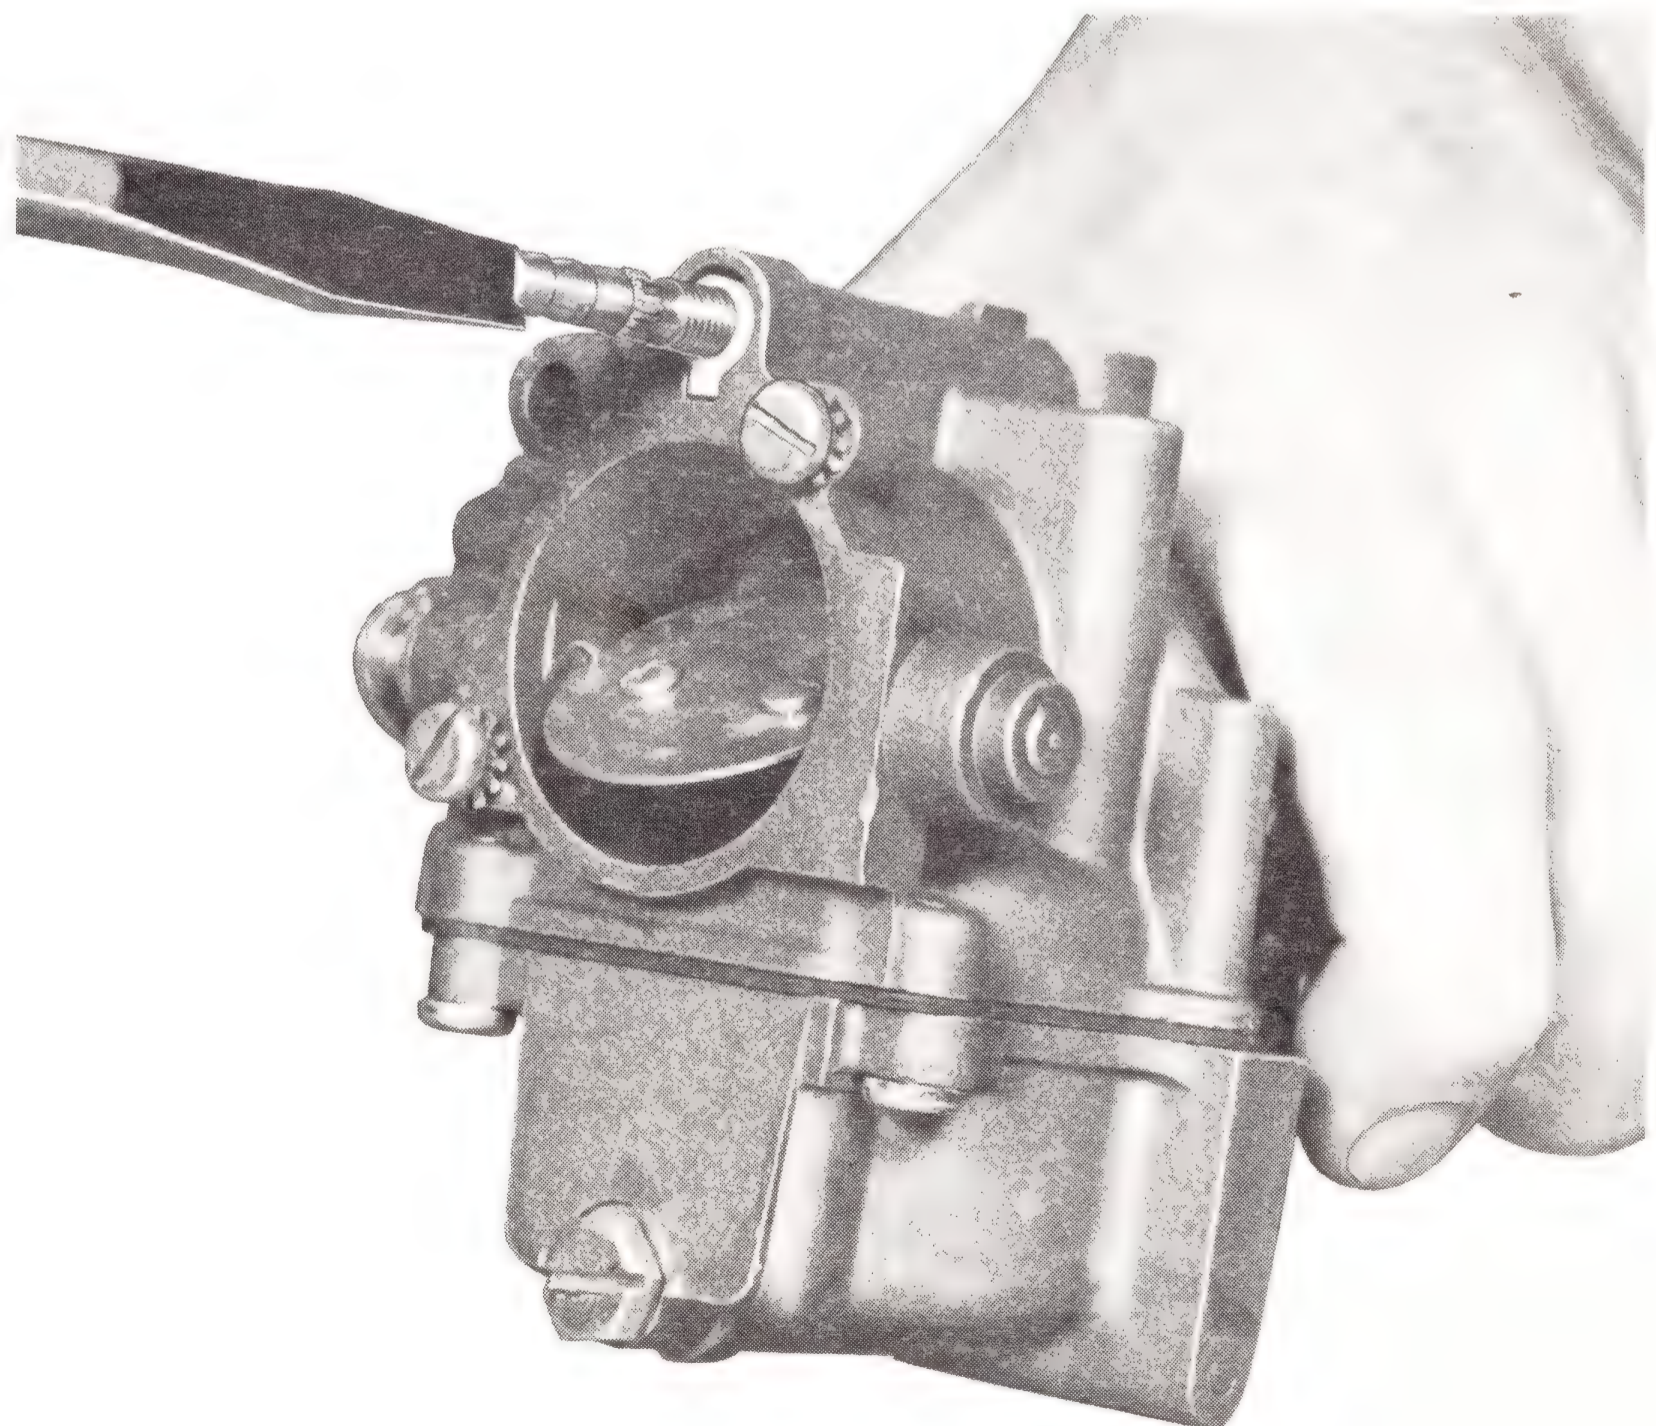

Figure 3-10. Removing Low-Speed Needle
- c. Remove low-speed needle valve from carburetor using lever to turn it out. See Figure 3-10.